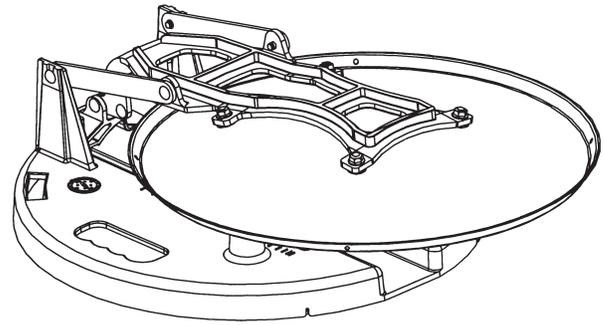

FIGURE 2
STEP 3. Loosen clamp knobs and put antenna in travel position. See Figure 2.